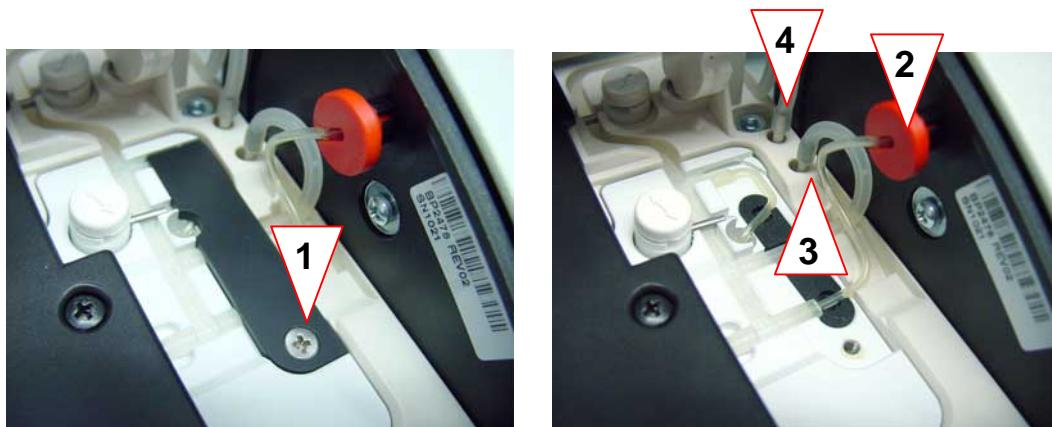

Fig. 3-23 Sample sensor cover / Barex tube
5. Open the screw of the sample sensor board cover (see Fig. 3-23, 1) and remove the cover.
6. Pull off the Barex tube from the sample port module (see Fig. 3-23, 2).
7. Pull off the two tubes from the pipes (see Fig. 3-23, 3 and 4).
3. Open the screw of the sample sensor board cover (see Fig. 3-23, 1) and remove the cover.
4. Pull off the Barex tube from the sample port module (see Fig. 3-23, 2).